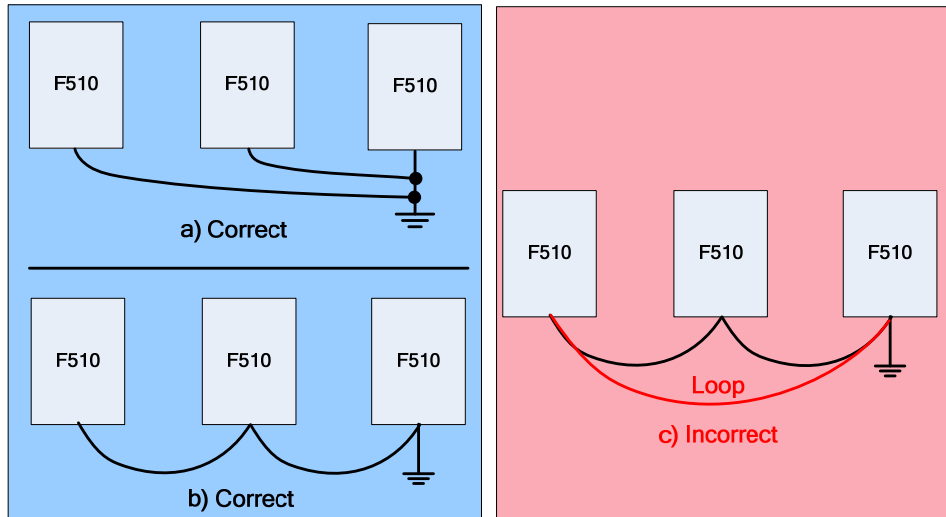

Figure 3.3.6.2 F510 Inverter Grounding
- (1) Connect the ground terminal (E) to ground having a resistance of less than 100Ω .
- (2) Do not share the ground wire with other devices, such as welding machines or power tools.
- (3) Always use a ground wire that complies with the local codes and standards for electrical equipment and minimize the length of ground wire.
- (4) When using more than one inverter, be careful not to loop the ground wire, as shown below in Fig. 3.3.6.2.